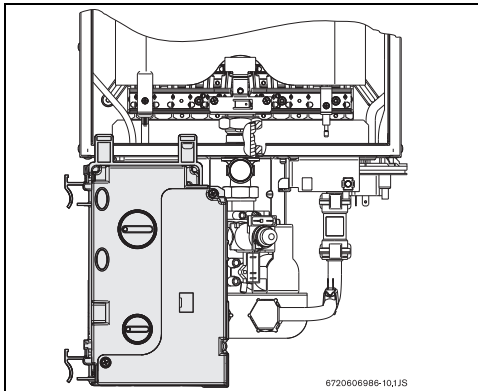

Fig. 18 Control box – gas adjustment position
- ▶ Once the control box is removed, place it as in Fig. 18.